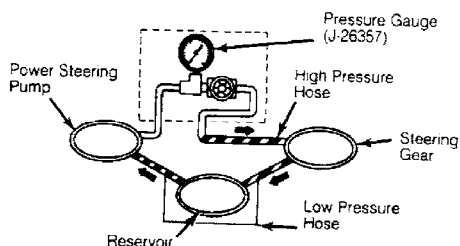

Fig. 1: Checking Hydraulic System Pressure
1) Disconnect high pressure hose at power steering pump. Install Pressure Gauge (J-26357) between power steering pump and steering gear. See Fig. 1. Open valve and bleed air from system. See HYDRAULIC SYSTEM BLEEDING in this article. Check fluid level.